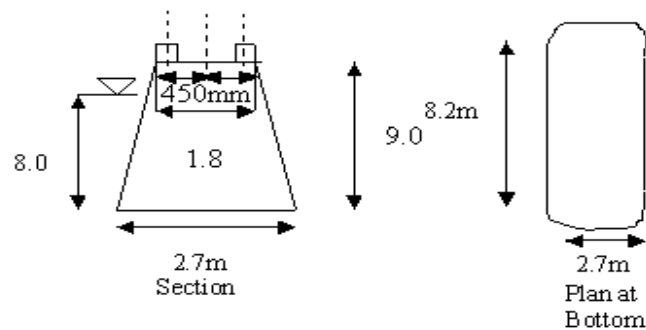

Figure 1:
8. Check the adequacy of the dimension for pier with given data Shown in Figure 1